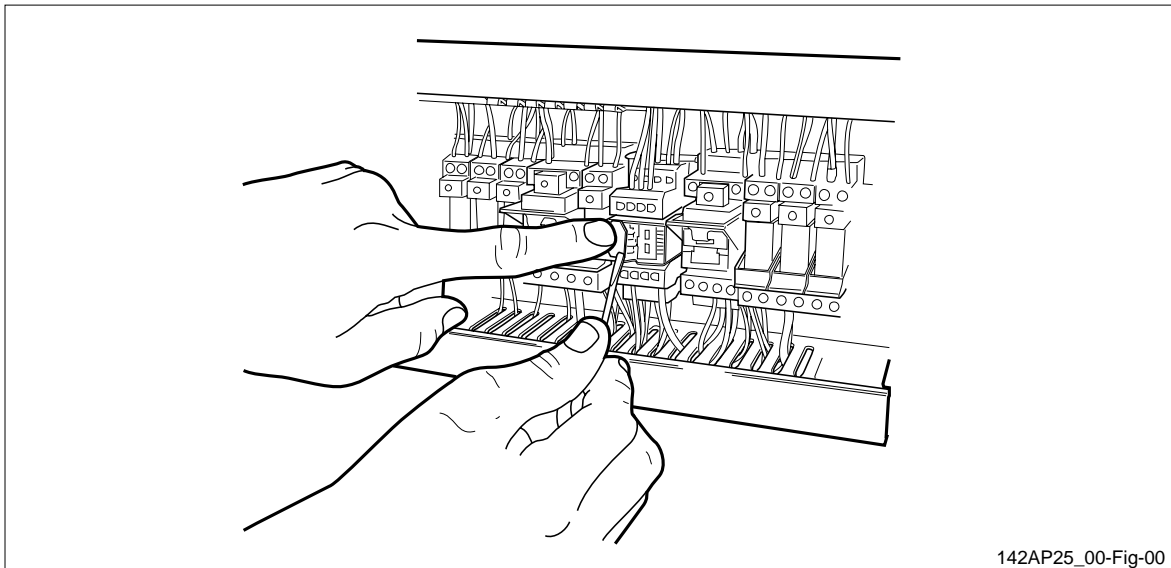

Figure 13 Unlocking a bistable relay.
2. Pull up the locking mechanism of the relay to be replaced with a screwdriver as shown in figure 13.